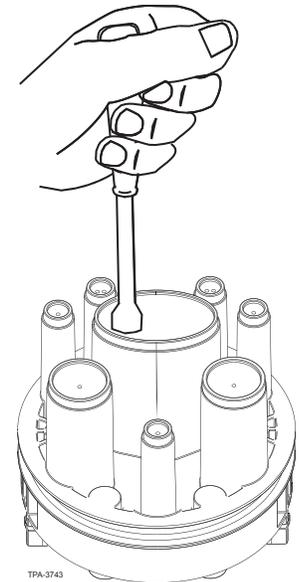

Figure 3
**Step 3:** Carefully tap the end using a punch or a nut driver (Figure 3).